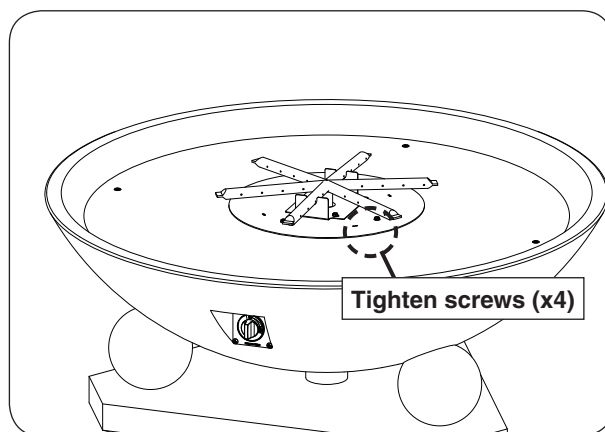

Fig. 32-2 Install burner
2. Use a  $\frac{5}{16}$ " nut driver to fasten the burner to the base (see Fig. 32-2).